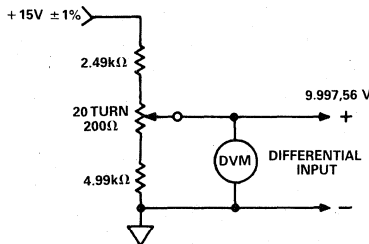

Figure 5. Input Connection for the  $R_{SPAN}$  Calibration
1. Apply a precise  $10V - 2.44mV$  across the input of the AD369. A voltage divider as shown in Figure 5 can be employed; in conjunction with a precision voltmeter to verify an input of  $9.997,56V$ .